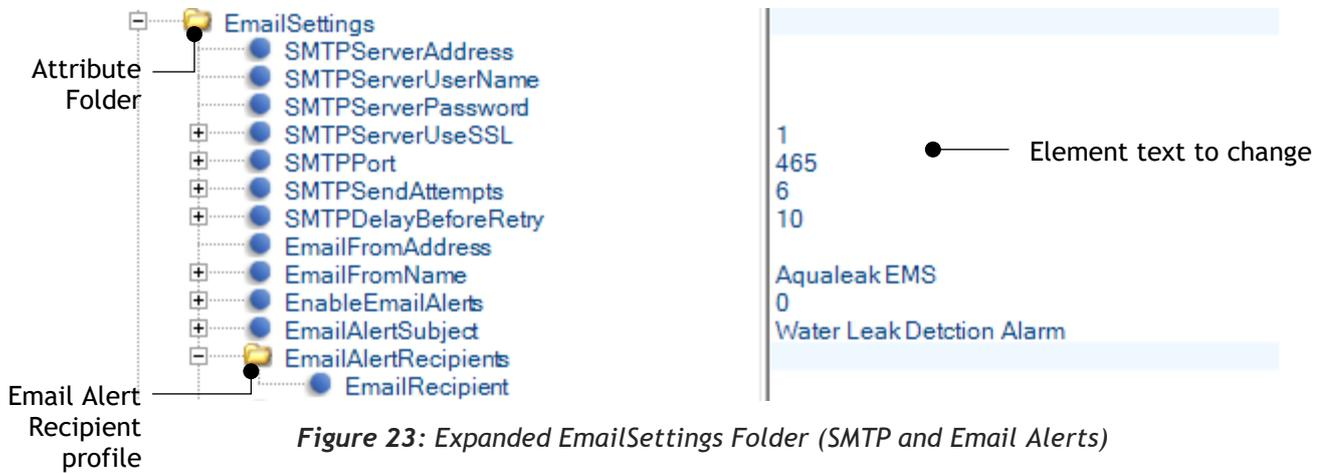

Figure 23: Expanded EmailSettings Folder (SMTP and Email Alerts)
1. Click the  icon next to the **EmailSettings** attribute folder to expand it. All configurable elements will appear below, along with **element text to change** in the right column (**Figure 23**).
1. Click the  icons next to the **EmailSettings** attribute folder and the **EmailAlertRecipients** profile folder to expand them. At least one existing **EmailRecipient** element will appear below (**Figure 23**).
1. Click the icon next to the **EmailSettings** attribute folder to expand it (Figure 23). All configurable elements will appear below, along with **element text to change** in the right column (Figure 24).